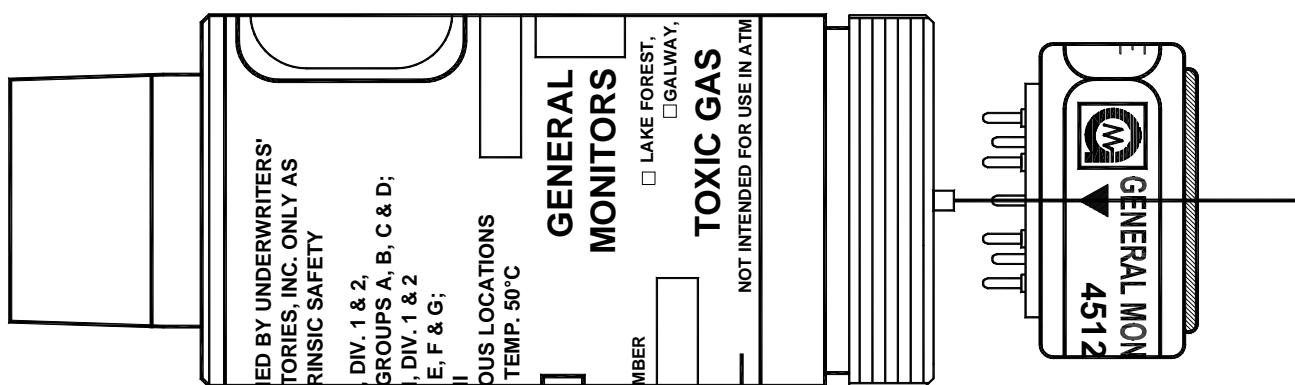

Figure 9: Sensor Alignment
6. Align the arrow on the sensor label with the notch on the TS400 body. Install the sensor by pushing the sensor's pins into the pin sockets on the TS400, (Figure 9).